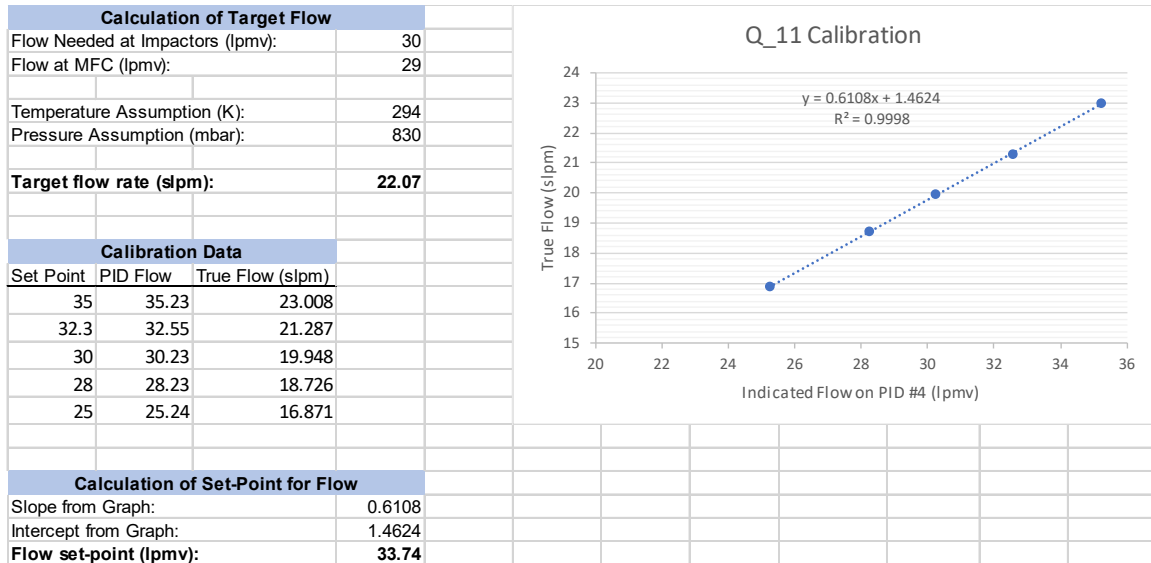

Figure C7: An example work-up of the impactor box flow calibration.
NOTE: At sites where there is a TAP or CLAP pick off from the nephelometer, the TAP/CLAP flow is subtracted from the target flow of 30 lpmv. This is the case for the calibration shown in **Fig. C7**, in the top lines of that example this subtraction is shown with the TAP/CLAP flow being 1 lpmv.
- Make a plot of the flow from your flow calibration device (true flow in slpm) on the y-axis and the PID flow value (lpmv) on the x-axis. An example calibration is shown in **Fig. C7**.